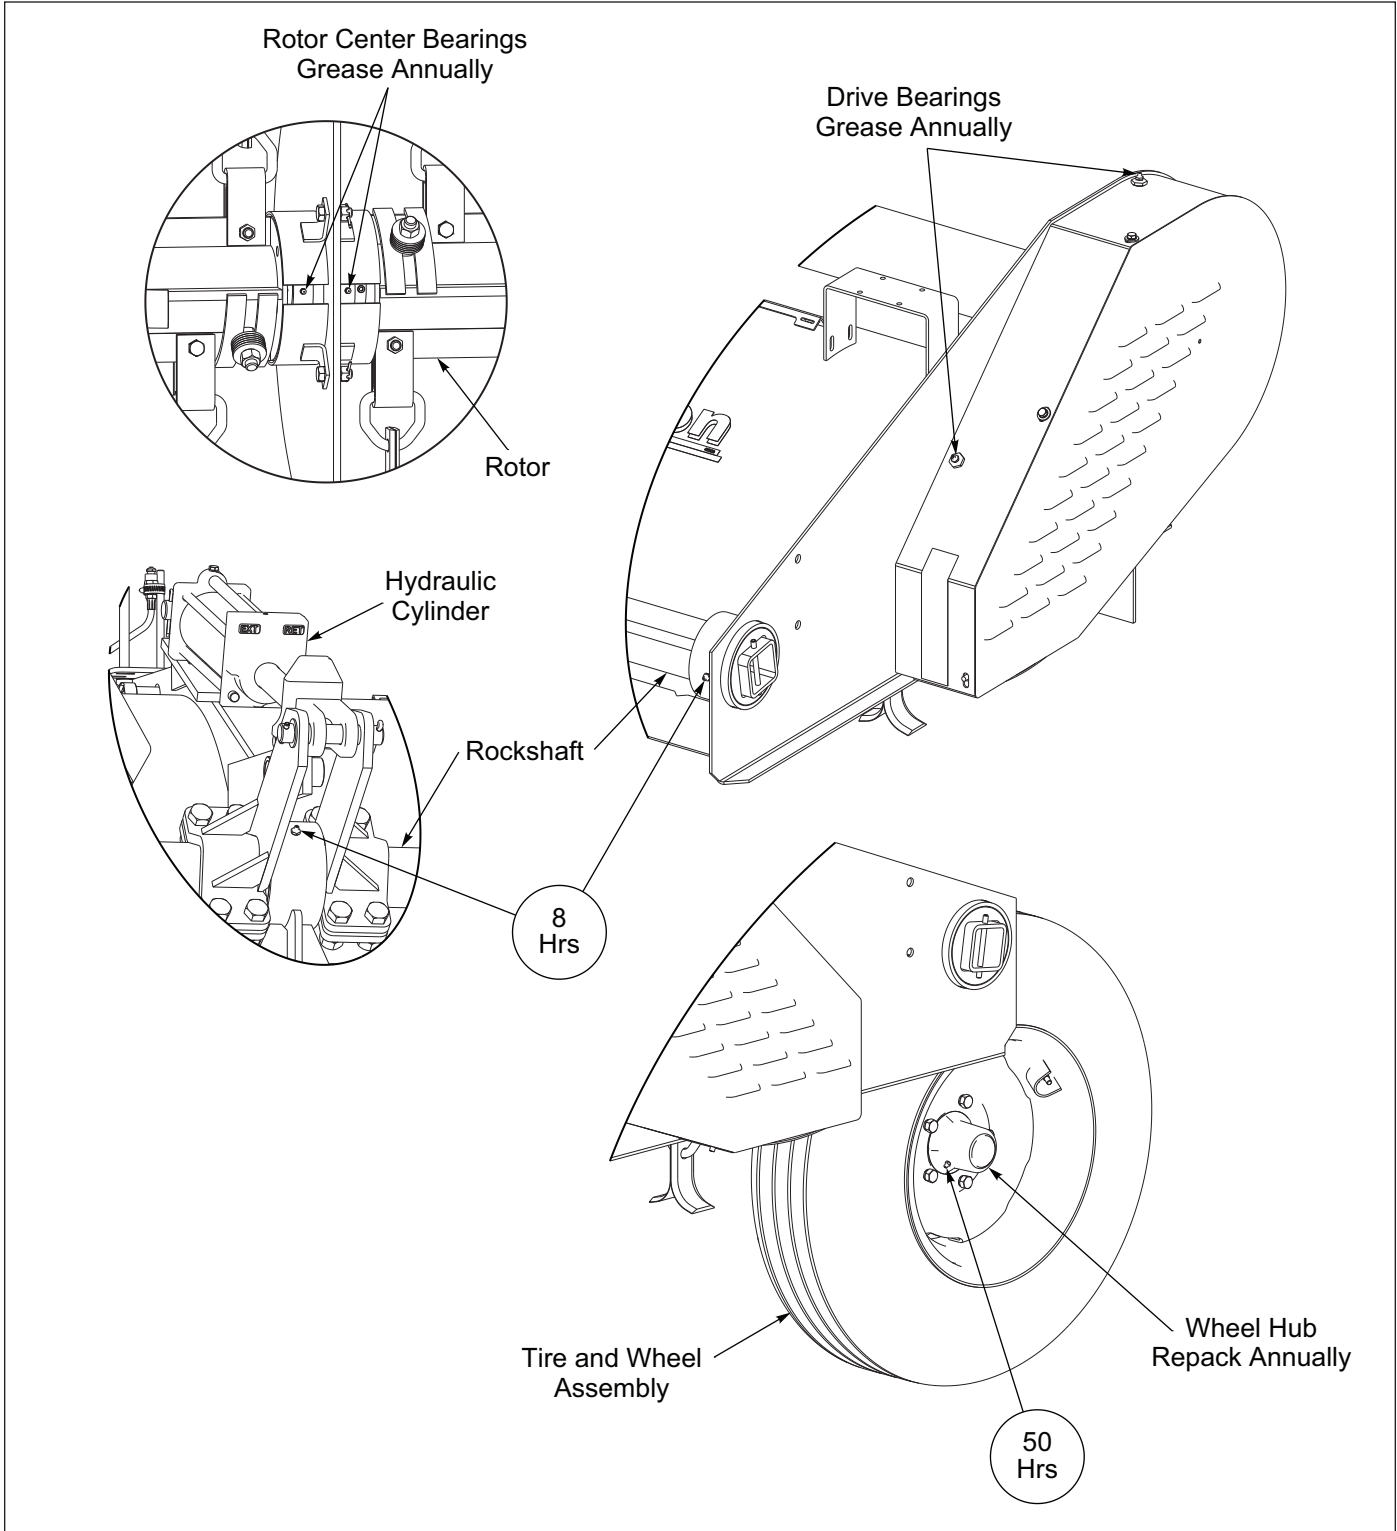

Figure 4-3: Lubrication Maintenance
- Shredder Rockshaft has 3 grease points, grease every 8 hours of operation. **See Figure 4-3.**